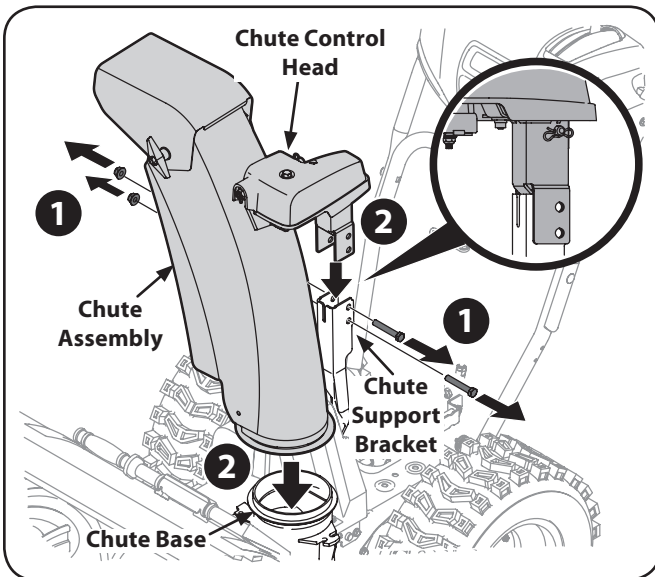

**Figure 3-5**
1. Remove the lock nuts and hex screws from chute support bracket. Position the chute assembly over the chute base. See Figure 3-5 .